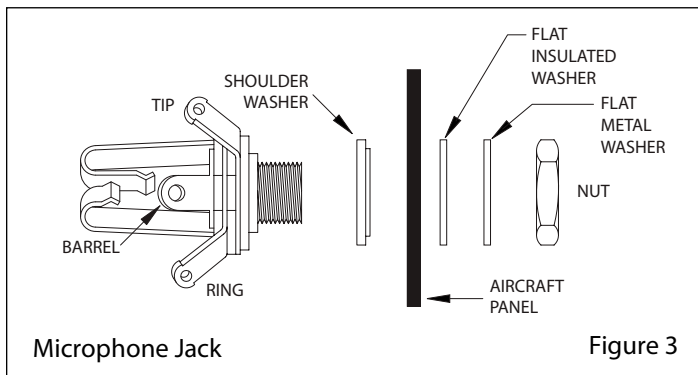

Figure 3
Mounting Headphone And Microphone Jacks (See Figure 3)
3. Drill ½" diameter holes for the mic jacks and install with the insulating washers supplied. (See Figure 3)